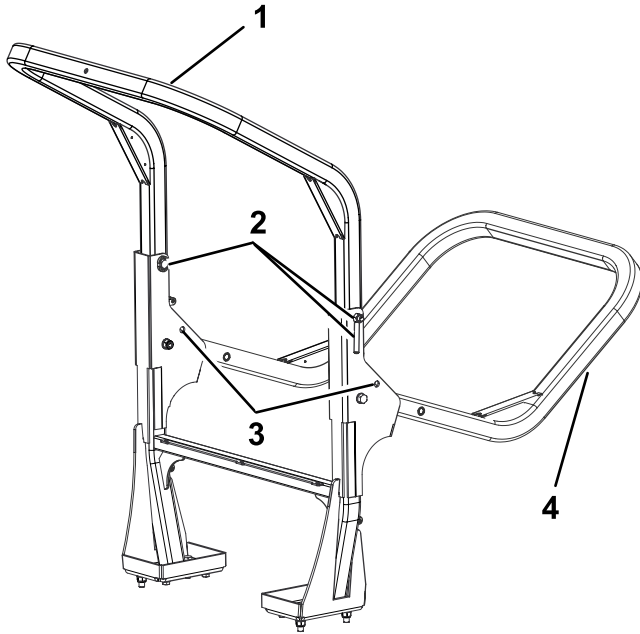

Figure 25
- Support the weight of the upper frame of the roll bar while removing the snap pins and clevis pins from the pivot brackets (Figure 25).